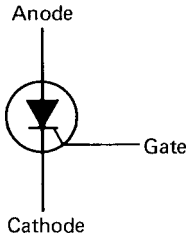

Figure 19-7 Symbol used for representing an SCR in a circuit.
An SCR conducts current in a forward direction only. The symbol for an SCR is shown in Fig. 19-7. Current always flows through an SCR from the cathode (C) to the anode (A). The illustration indicates that the SCR also has a gate (G).